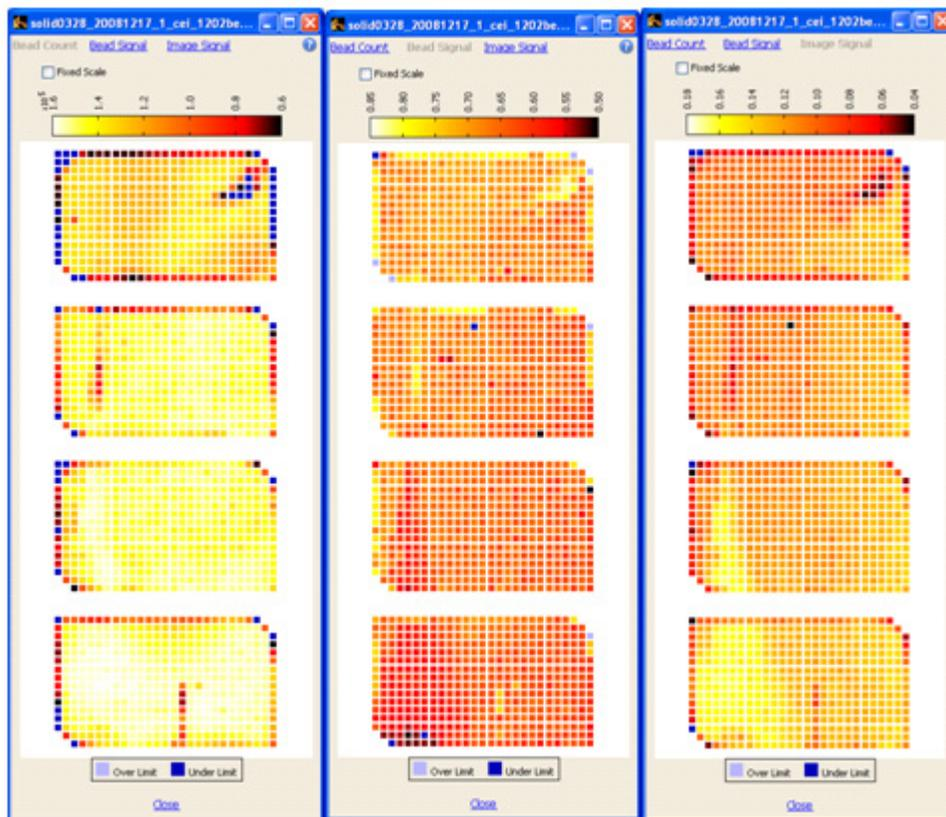

Figure 63 Bead Count (left), Bead Signal (center), and Image Signal (right) heat maps.
1. To view the heat map showing bead densities found in the focal map images, click **Heat Map** located at the top right corner of the flowcell panel (see Figure 63 on page 79).